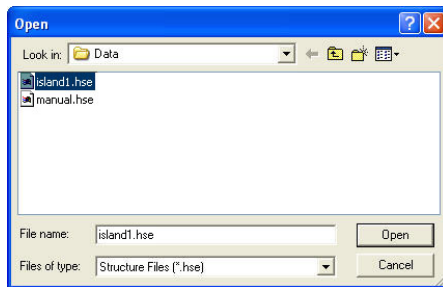

Figure 12-52. Locate Structure
1. Click **Survey ► Define Structure**. The *Open* dialog box appears (Figure 12-52).